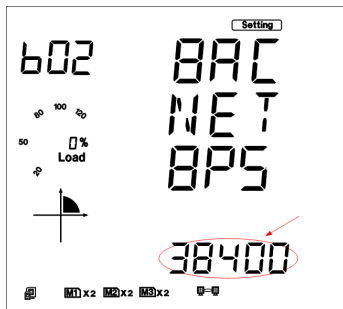

Fig 5-83
i). Set BACnet/IP port in the seventh setting page, such as 47808. Press the "V/A" key to go to the setting page. Users may set the parameters pointed out in Fig 5-83. The cursor starts at the first digit. The BACnet/IP port's default value is 47808, and the user defined range of port is 1~65535. After setting the BACnet/IP port, press the "V/A" key to accept. Press the "P" key to go to the eighth setting page for the BACnet RESET.